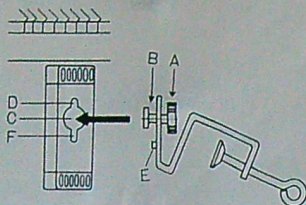

Fig. 5
Remove the table clamps from the accessory box. Raise the front of the knitter, insert the head of screw (B) into the aperture (c). (See Fig.5)